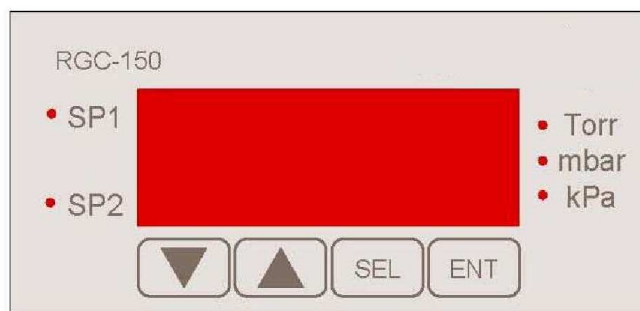

Figure 2 Front Panel
1. Press the **SEL** key three times during normal operation. The currently selected units blink (Figure 2).